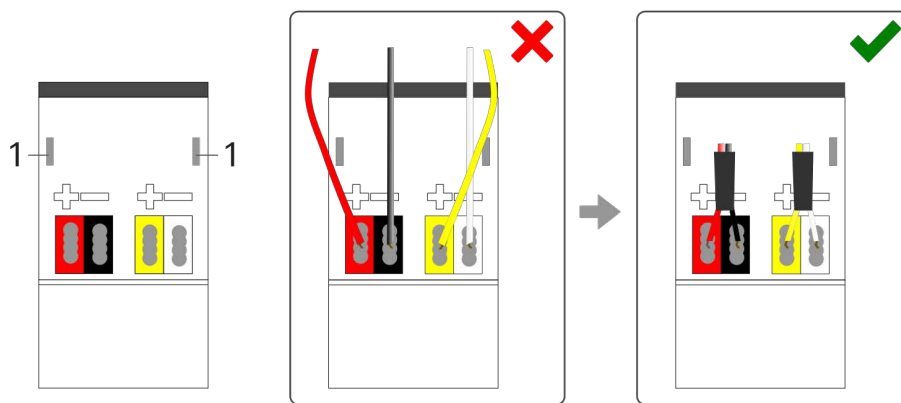

Figure 11: Cable routing
- a. Route all cables to the back. The openings for fastening the cover cap (figure 11, pos. 1) must be clear. All cables must be between the openings.